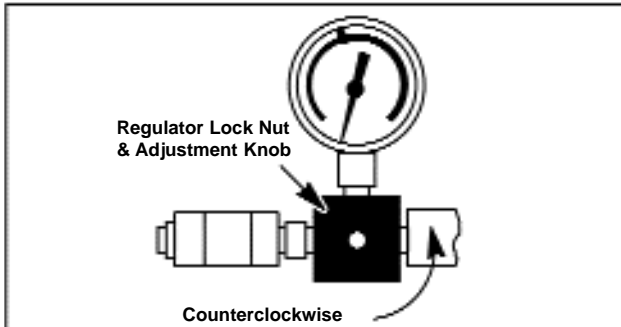

Figure 83 - Pre-Setting Regulator
- Pull regulator lock nut out and turn adjustment knob counterclockwise as far as it will go, Figure 83.